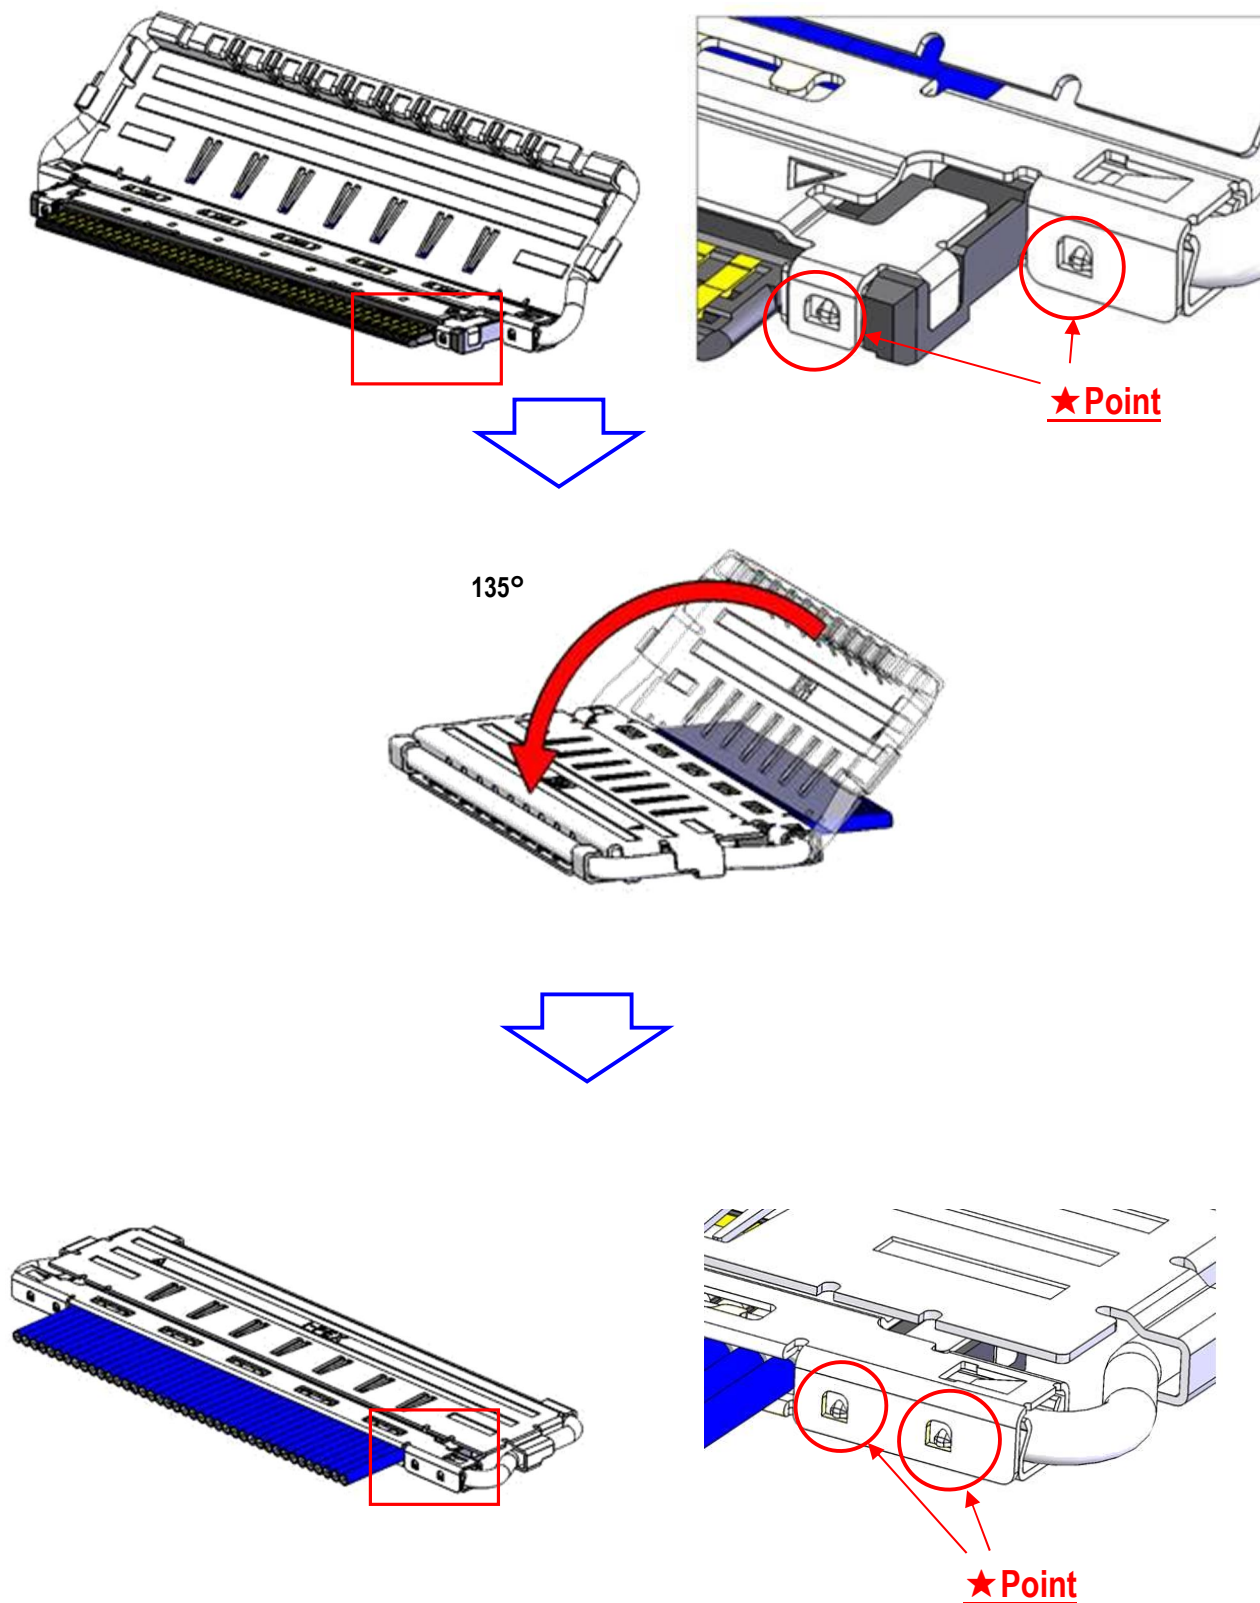

Fig.9 The Assembly Confirmation of Shell-A
- ⑤ Soldering shell A, B and ground bar with the soldering iron at all designated points is recommended. (Fig.9,10◆point)